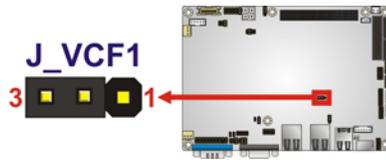

Figure 4-8: CompactFlash® Voltage Selection Jumper Location
- Jumper Location:** See Figure 4-8